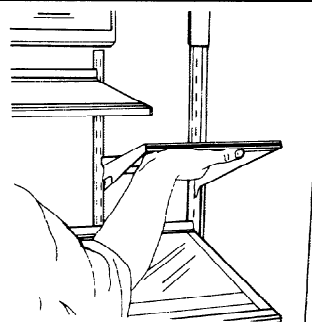

FIGURE 45
2. Lift shelf and pull out. See Figure 45. To install, tilt shelf and engage upper hooks in desired track slots. Lower shelf front and tap downwards near the tracks until shelf hooks are securely seated and shelf is level.